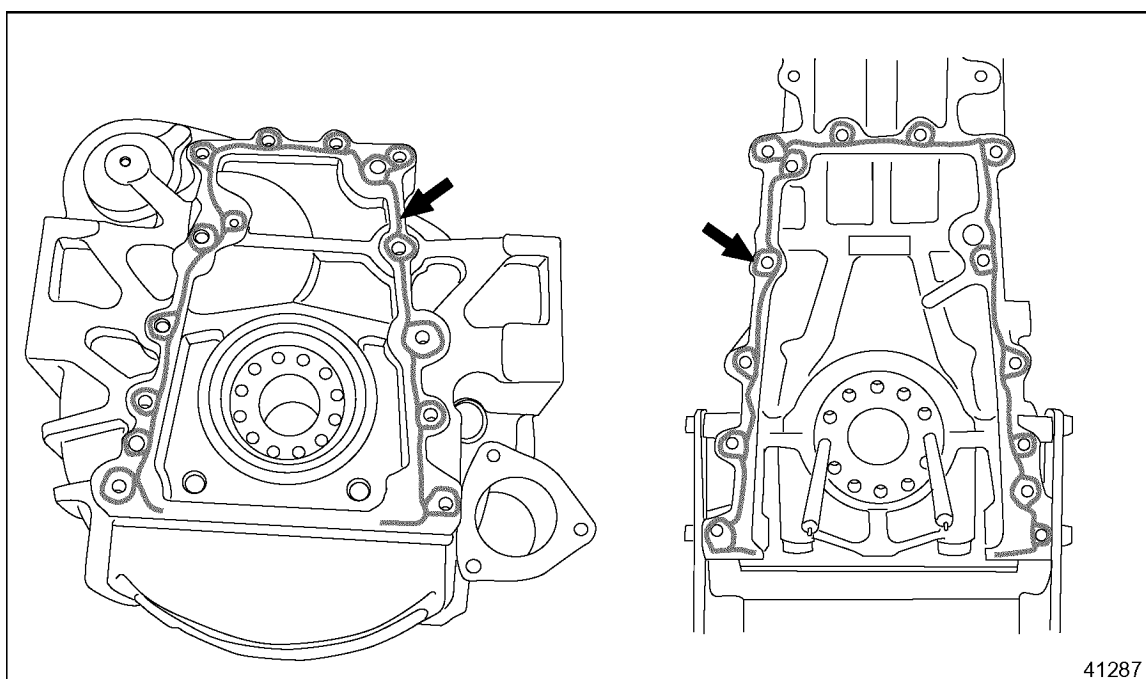

Figure 9-4 Removal of Gasket Material
10. Remove any gasket material from the flywheel housing and block at this time. See Figure 9-4.